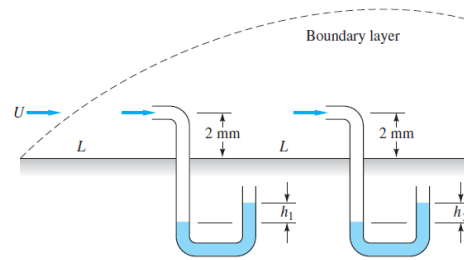

Fig. 7.6
7.6* Air at 20°C and 1 atm flows past the flat plate in Fig. 7.6 under laminar conditions. There are two equally spaced pitot stagnation tubes, each placed 2 mm from the wall. The manometer fluid is water at 20°C. If $U = 15$ m/s and $L = 50$ cm, determine the values of the manometer readings h_1 and h_2 , in mm.